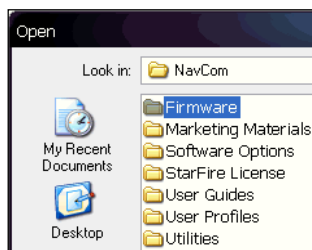

Figure 26: Firmware Folder
61. Browse to NavCom\Firmware on the PC (see Figure 26).